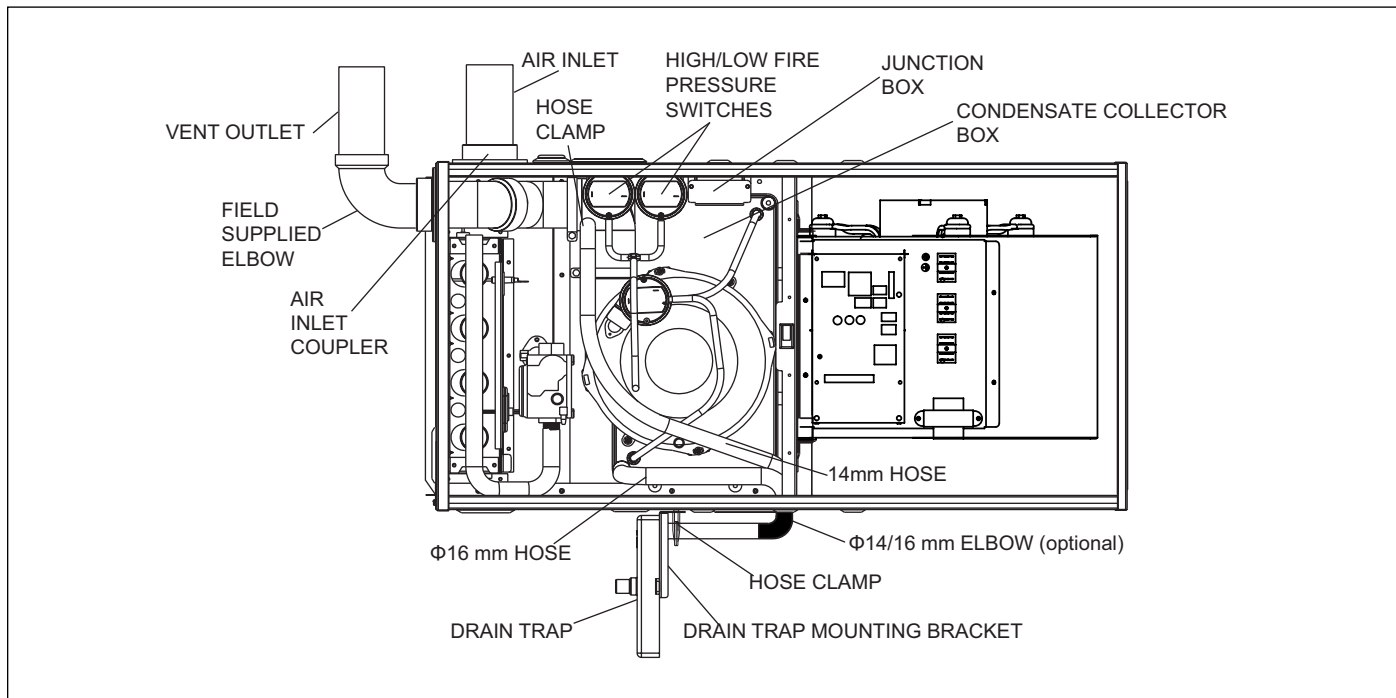

Figure 17 Horizontal Left Side Installation, Vent Through Top Panel
- ▶ For horizontal left hand installation (air discharge to the left), condensate overflow pressure switch hoses need to be rerouted (see Figure 17).
**For installations with left air discharge and venting outlet through furnace top panel (see Figures 17 and 18).**
9. Connect 14 mm hose between the side inducer drain port (remove black rubber plug to connect hose) and drain trap. Refer to Figure 17.
14. Relocate the High/Low Fire Pressure Switches (2) to the opposite side of the cabinet (as shown in Figure 17 and 18). Screws for mounting these switches should not interfere with any components inside the furnace.